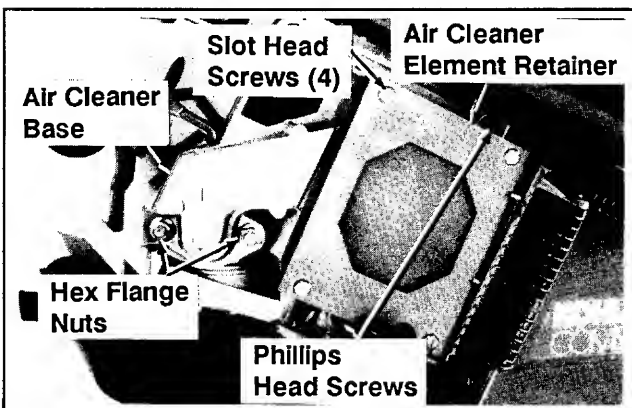

Figure 11-37. Installing Air Cleaner Base (CH5).
1. Install gasket, air cleaner base, and hex. flange nuts on intake studs. See Figure 11-37.